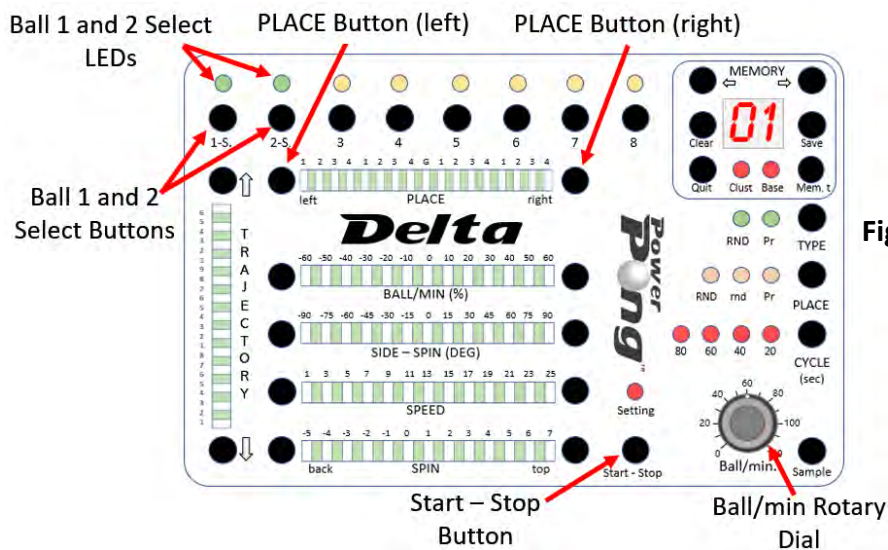

Figure 4-1
adjustment is recommended. Perform the following steps to check for proper adjustment. See Figures 4-1 and 4-2.
2. The Ball Select LED for Ball 1 will be flashing. Press the left PLACE button **twice** so that Ball 1 will be delivered to the left of the centerline. (Figure 4-1) The LED under the "3", two positions left of the "G" on the PLACE LED Display must be lit.
3. Press the Ball Select Button for Ball 2. The Ball Select LED for Ball 2 will start flashing. Press the right PLACE button **four times** so that Ball 2 will be delivered to the right of the centerline. (Figure 4-1) The LED under the "2", two positions right of the "G" on the PLACE LED Display must be lit.
4. Set the Ball/min rotary dial to 25. (Figure 4-1)